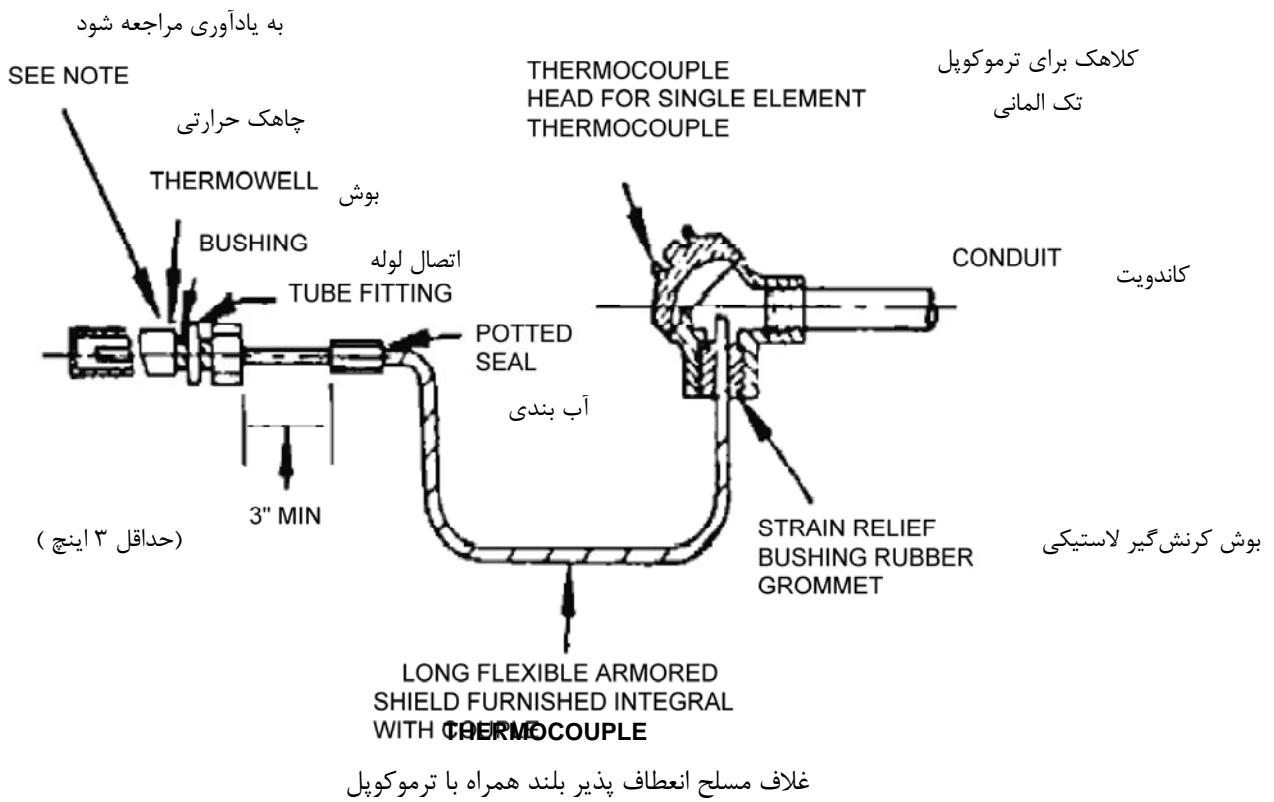

Fig. 1 - SHEATHED-TYPE THERMOCOUPLE AND HEAD ASSEMBLY
7.7 Metal-sheathed, mineral-insulated thermocouples where applicable such as fire boxes or furnaces are sometimes installed with the thermocouple head separated from the thermowell. An example of this type of installation is shown in Fig. 1.
7.10 For field installation where the thermocouple cannot be directly connected to rigid conduit, a flexible conduit may be used as shown in Figs 1 and 3. A seal-off with drain at the thermocouple end of the conduit and seal-off with drain at the control room entry provides a double block and bleed in case the thermowell should fail and process fluid or gas enter the conduit.